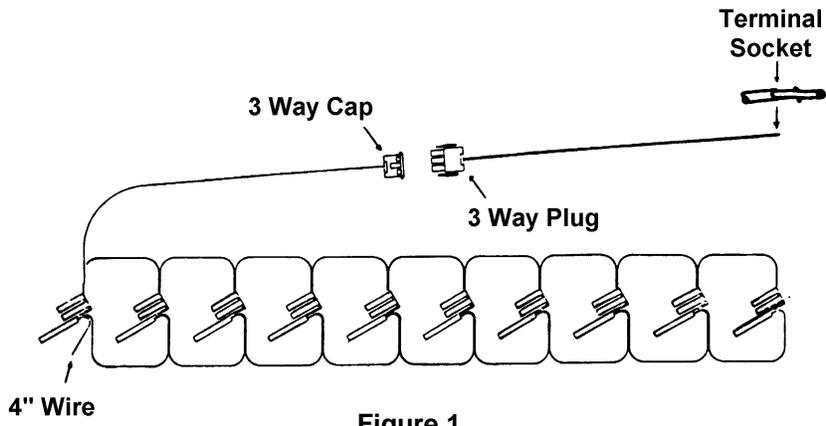

Figure 1
3. Facing the vend motors, lay the kit harness so the housing with the 4" wire (see figure 1) coming off the common of the housing is to the left side of the vend mechanism (stack).
20. Locate the wire in the kit which has a 3-way plug on one end and a terminal socket on the other end. See figure 1.
21. Install the terminal socket (see figure 1) in the 2-way counter cap in the position the "CT" wire was removed in step 17.